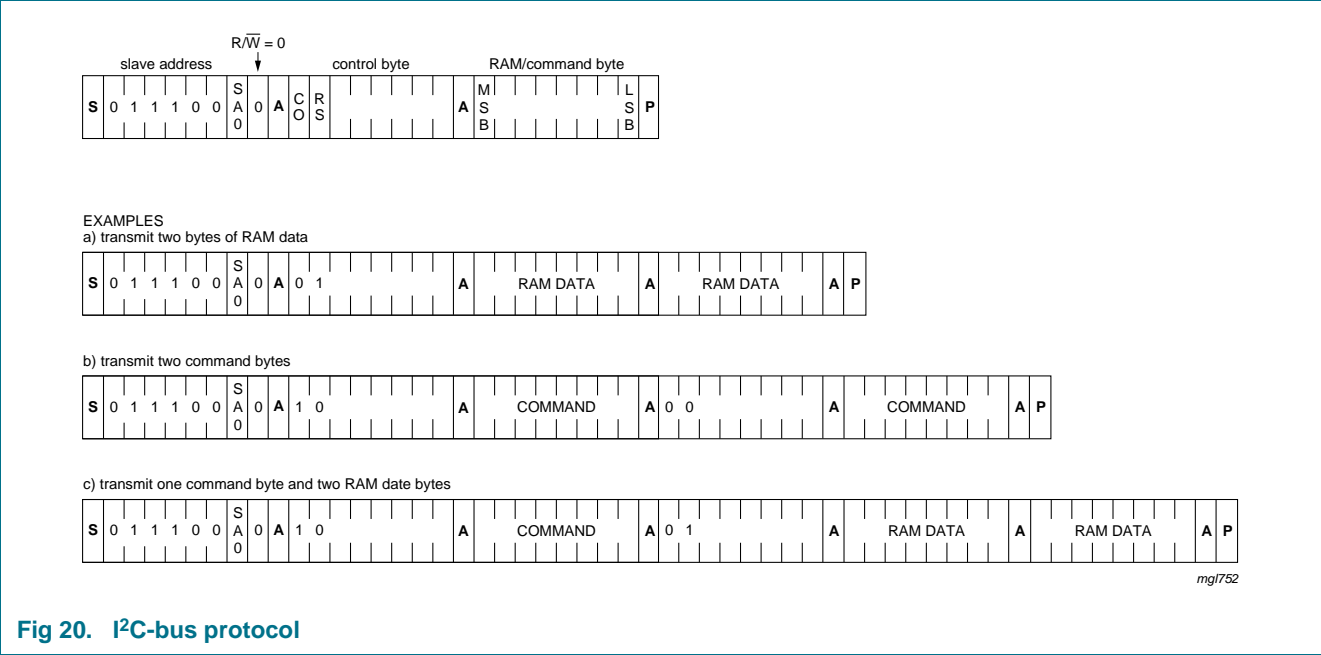

Fig 20. I2C-bus protocol
The I2C-bus protocol is shown in Figure 20. The sequence is initiated with a START condition (S) from the I2C-bus master which is followed by one of two possible PCF8533 slave addresses available. All PCF8533 whose SA0 inputs correspond to bit 0 of the slave address respond by asserting an acknowledge in parallel. This I2C-bus transfer is ignored by all PCF8533 whose SA0 inputs are set to the alternative level.